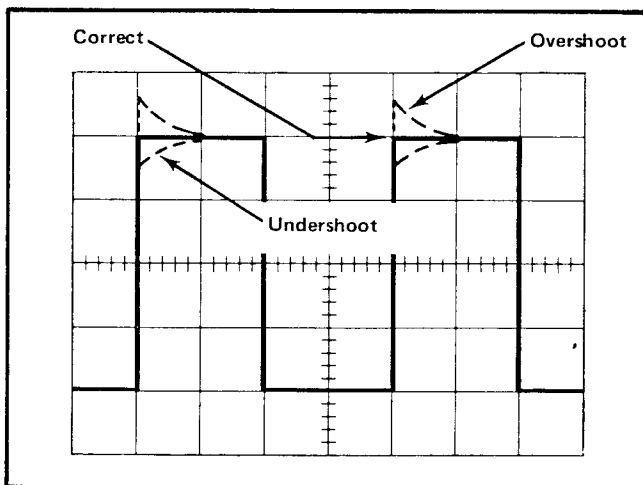
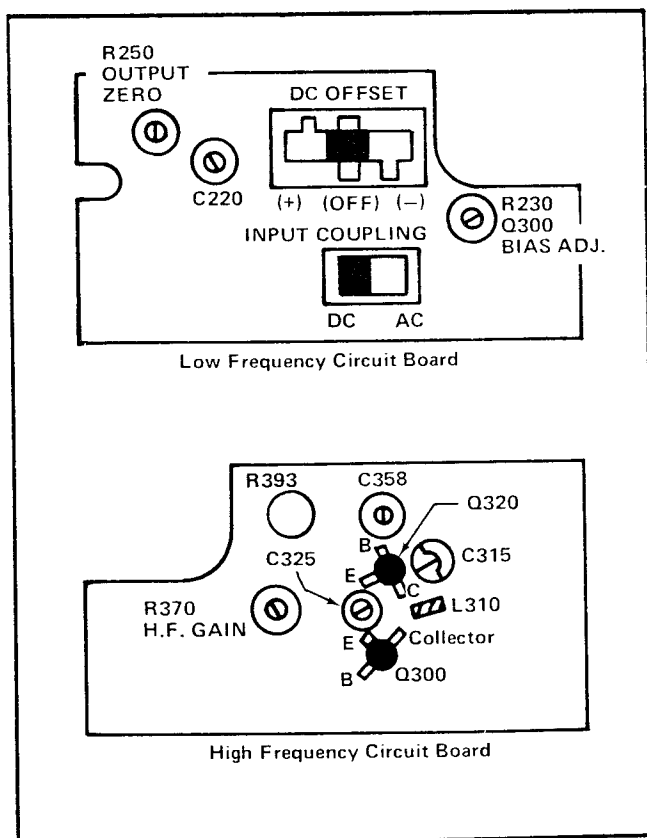

Fig. 5-3. Illustration showing overshoot, correct and undershoot examples of high frequency gain adjustments.
Fig. 5-1. Output amplifier adjustment and test point locations.
e. ADJUST—See Table 5-1 and Fig. 5-1 for adjustments. Adjust for optimum transient response and risetime.
c. CHECK—Test oscilloscope for a waveform whose leading corner is the same height as the low frequency amplitude. See Fig. 5-3.
d. ADJUST—HF Gain, R370 (Fig. 5-1) for a leading corner which is the same height as the low frequency amplitude. See Fig. 5-3.
c. ADJUST—C220 (Fig. 5-1) for a flat top on the waveform.
- f. ADJUST—Output Zero, R250 (Fig. 5-1) to return test oscilloscope trace to ground reference point.
- g. Connect a VOM between the collector of Q300 (Fig. 5-1) and ground.
- i. ADJUST—Bias Adj., R230 (Fig. 5-1) for a meter reading of $0\text{ V} \pm 25\text{ mV}$.